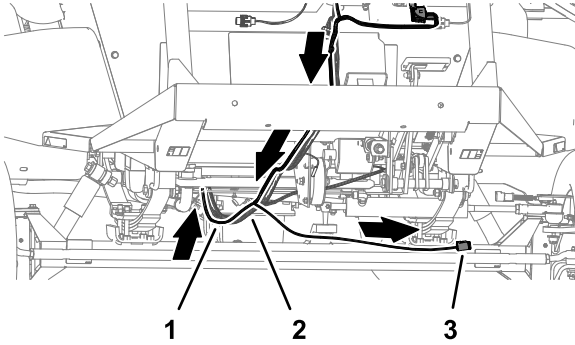

Figure 48
1. Route the wire harness for the kit rearward, along the wire harness for the machine (Figure 48).
2. Route the wire harness branch with the connector labeled WHEEL ANGLE SENSOR along the back of the front axle tube (Figure 48).